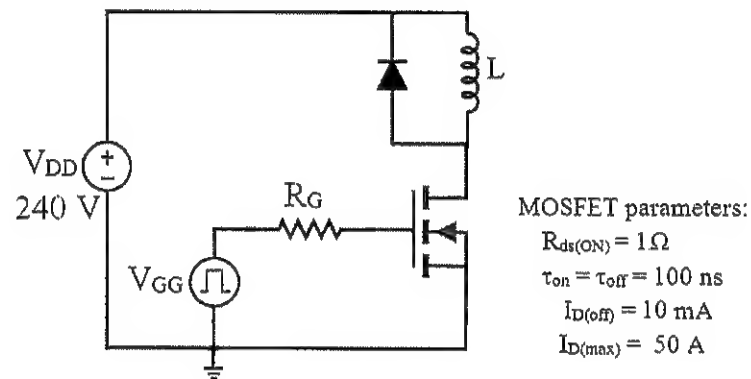

Figure Q1(c)
- (c) Figure Q1(c) shows a MOSFET with clamped inductive load operating at a switching frequency of 10 kHz and duty cycle of 60%. The inductance of the load is large such that the load current is constant at a value of 13A.